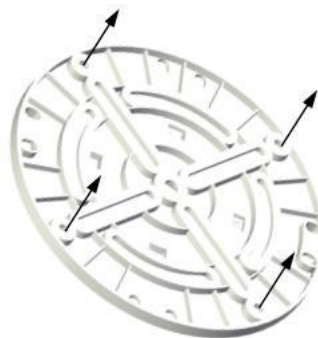

Figure 3: How to install the AoA Locator
- As shown in the figure 3, use KA4 screws to fasten the rack on the ceiling (direction indicated by the arrow)